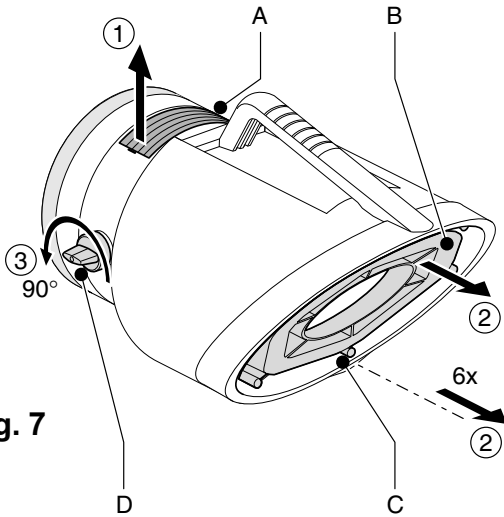

Fig. 7
1. Pop out the sealing plate (Fig. 7, Item A) on the top of the hood with a screwdriver.
2. Remove the six screws (Fig. 7, Item C) and the air-flow focus vanes (Fig. 7, Item B).
3. Open the airflow throttle valve (Fig. 7, Item D).
the open end of the hood, using the six screws (Fig. 7, Item C).